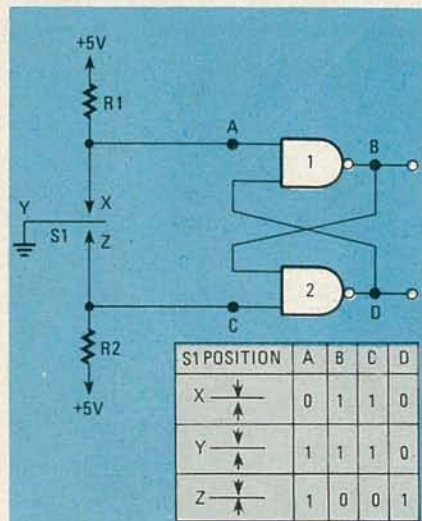

FIG. 4—DEBOUNCING CIRCUIT quickly and easily eliminates the problems of contact bounce.
**7. DEBOUNCE GATES THAT ARE CONNECTED TO MECHANICAL SWITCHES.** The contacts of a mechanical switch actually strike each other several times before they finally close. Each time those contacts "bounce", a pulse is created. Flip-flops, counters, and other trigger-dependent gates interpret those pulses as signals. Two NAND gates placed between the switch and the receiving gate (Fig. 4) act as a "contact debouncer"